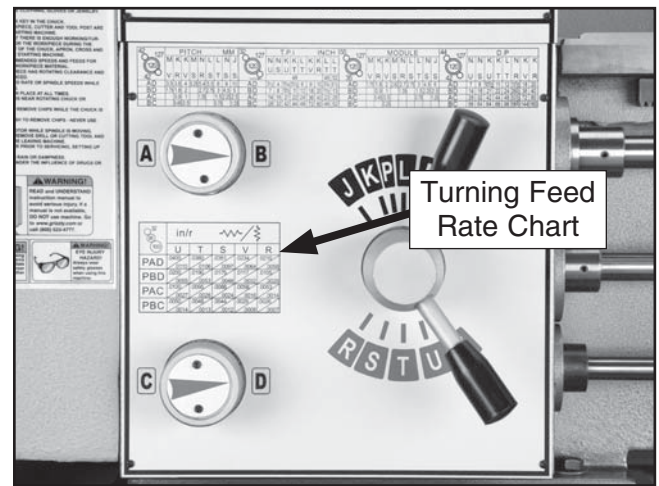

Figure 55. Feed rate chart for turning.
2. Review the chart shown in **Figure 55** to determine the correct configuration for your desired feed rate.